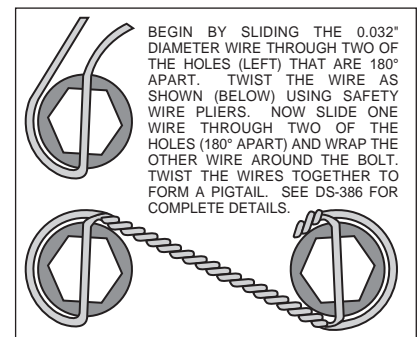
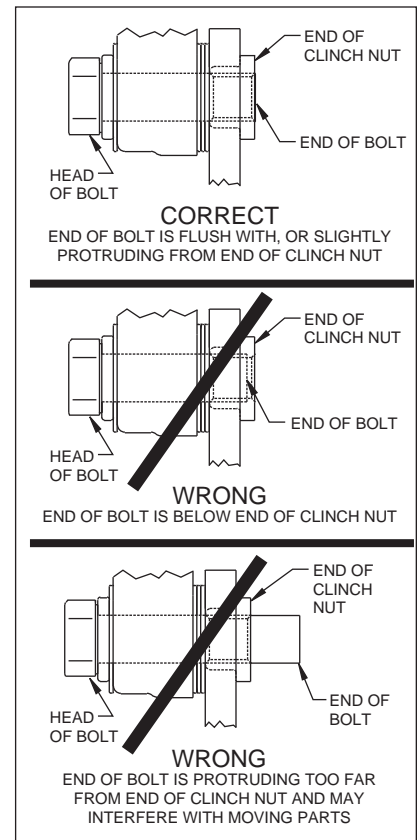

Figure 3. Safety Wire Diagram
Figure 4.
- With the mounting ears pointing towards the rear of the vehicle, install the caliper mounting bracket (1) to the housing flange using the bolts and nuts supplied with the C-clip eliminator kit. Apply red *Loctite*® 271 to the bolt threads and torque to OEM specifications. **NOTE:** *The caliper mounting brackets (1) should be located between the axle housing flange and the inner C-clip hub. Make sure the heads of the caliper mounting bracket insert nuts are FACING OUTWARD TOWARDS THE WHEEL.*
- Install the cable stop bracket (2) on the top front hole on the in-board side of the housing flange with the tab pointing toward the rear of the vehicle, held in place with the final bolt retaining the caliper mounting bracket (1). Apply red *Loctite*® 271 to the stock OEM bolt threads and torque to OEM specifications.
- Bolt the hat (3) to the rotor (4) using washers (5) and bolts (6). Torque bolts (6) to 180 **in-lb**. Safety wire rotor bolts (6) using standard 0.032 inch diameter stainless steel safety wire as shown in Figure 3. Please refer to Wilwood's data sheet DS-386 (available at [www.wilwood.com/pdf/ds386.pdf](http://www.wilwood.com/pdf/ds386.pdf)) for complete safety wire installation instructions.
- Align the correct hole pattern in the hat (3) with the stud pattern on the axle flange. **NOTE:** *Some OEM and after market axles come with stud sizes larger than 0.50" diameter. Verify stud size and have a qualified machine shop drill the hats to the correct size. Slide the hat/rotor assembly (3 and 4) over the wheel studs and against the axle flange face.*
- WITH THE BLEED SCREWS POINTING UP, mount the caliper (7) over the rotor (4) and onto the caliper mounting bracket (1) using washers (8) and mounting bolts (9). View the rotor through the top opening of the caliper. The rotor should be aligned in the center of the caliper. If not, adjust the caliper by using 0.032 inch shims (10) by placing them between the caliper mounting bracket (1) and the caliper (7). Add as many shim washers (10) as necessary to achieve the correct alignment. **NOTE:** *The end of the bolt must be flush with or slightly protruding from the head of the clinch nut. See Figure 4. Place spare shims (10) between washer and caliper mounting ear to achieve the proper mounting fastener configuration. Always use the same amount of shims on both the top and bottom caliper mounting bolts (9). Apply red *Loctite*® 271 to the mounting bolt threads (9), torque to 30 ft-lb. Safety wire the caliper mounting bolts (9).*
- Position the Wilwood disc brake pads (11) into the caliper (7) and fasten with cotter pin (12). Steel backing plate side of brake pad should face the caliper pistons.
- Disassemble the mechanical parking brake caliper (13) before mounting. Replace the bullet pin (rounded side against moving arm), steel pad backing plate and brake pad in the operating half of the mechanical caliper. Slide operating half of caliper onto the in-board side of the bracket with moving arm pointing toward the front of the vehicle. Mount outboard half of caliper on opposite side of rotor with the two spacers located between the caliper halves. Bolt mechanical caliper assembly together with 3/8-24 bolts provided with the mechanical caliper. The mechanical caliper should slide on the bracket ears at this point. Loosen the adjusting nut on the operating half of the mechanical caliper. Lift the arm up to its highest point and adjust the bolt until the arm can only move down between 1/4 inch to 3/8 of an inch until pressure is applied to the rotor, then tighten the adjusting nut. After the parking brake has been used a few times, it may need to be readjusted. **NOTE:** *Clevis and cable kits which attach to the mechanical arm are not included in the Wilwood parking brake kit. Because of the numerous variations it is impossible to supply a generic style that would be applicable to all applications. Gennie Shifter, and their distributors carry a complete line of cable kits and accessories that will fit this system. They can be reached at 626 • 337-2536. Specify a Clevis kit with a 1/4 inch pin.*